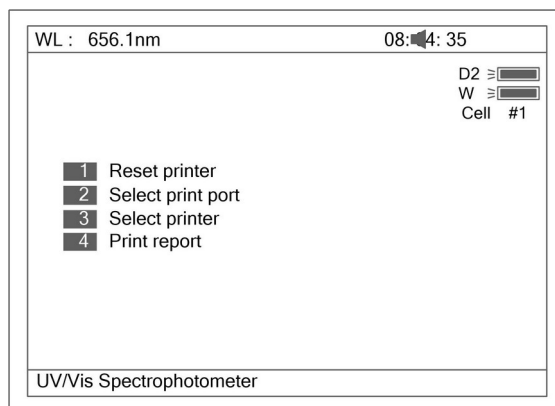
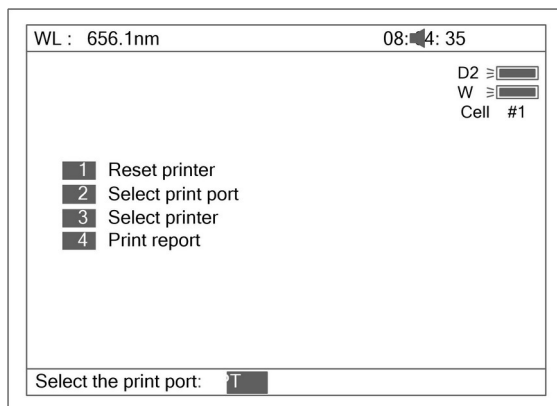

Fig 75
Fig 76
1. Press [1] in Fig 75 to Reset Printer.
2. Press [2] in Fig 75 to select print port (LPT or Comm., Fig 76).